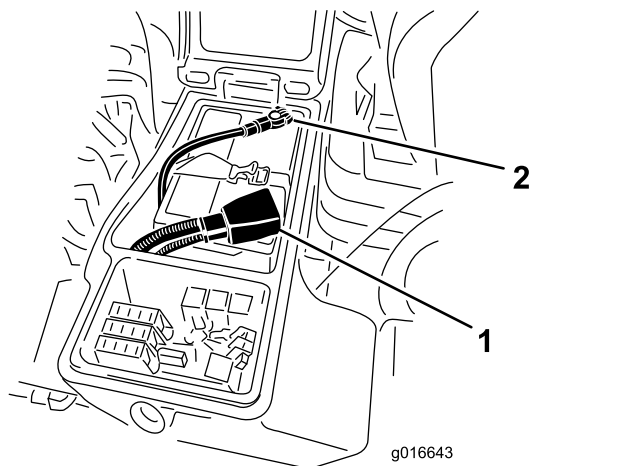

Figure 133
3. Disconnect the negative battery cable (Figure 133).